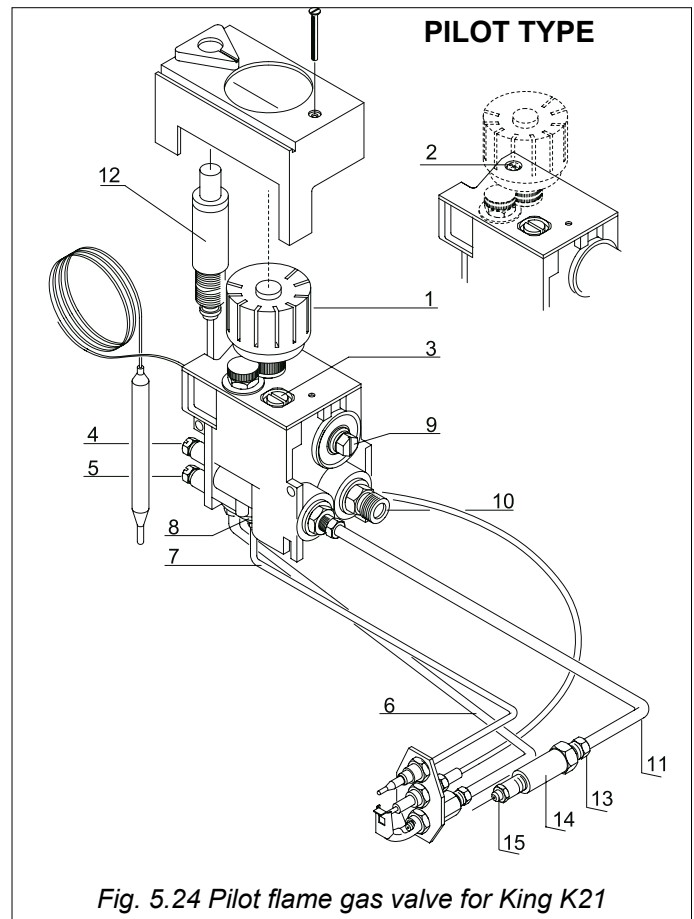

Fig. 5.24 Pilot flame gas valve for King K21
a) There is no gas or the pressure is too high.	a) Check the supply pressure on the valve (5 fig. 5.24).
a) The gas pressure reaching the nozzle is too high.	a) Adjust the pressure to the rating plate values using the pressure tap (4 fig. 5.24).